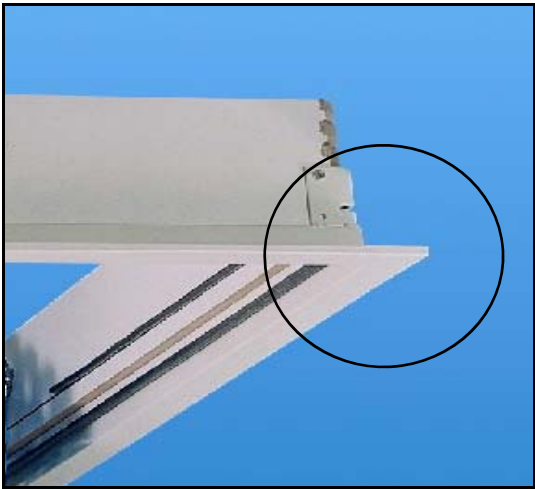

Figure 3
1. Mark out the rough opening size for your unit according to TABLE A. *Note that the finished metal trim extends about 2" beyond the rough opening when the unit is installed (Figure 3). Allow clearance for this on all four sides.*